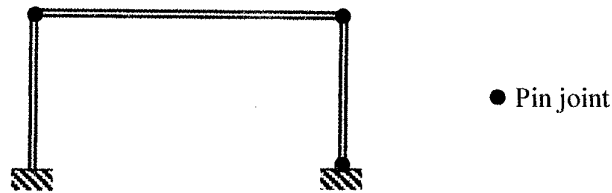

Figure Q3a
- (ii) Find the degree of statical indeterminacy of the frame shown in **Figure Q3a**. [3 Marks]